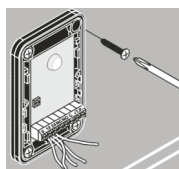

Fig. 6
- 5 - Mount the receiver with the screws supplied ( Fig. 6 );